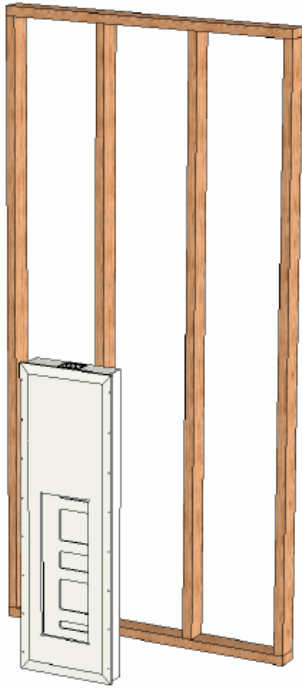

FIGURE 1
- a. If the construction calls for ½" drywall, then the IWPBB should be mounted directly to the studs. After the drywall is hung, the edges of the IWPBB should be taped, mudded and sanded flush with the drywall. The IWPBB can then be painted or finished as the rest of the drywall in the room. **See Figure 1.**